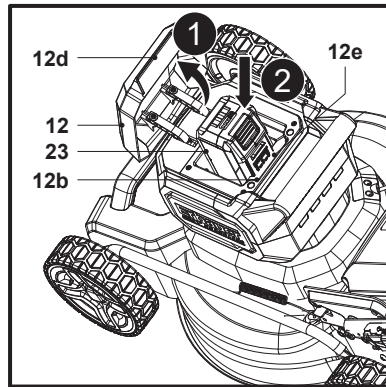

Fig. 7
1. Hold the lip (12d) and open the battery compartment cover (12) (Fig. 7, step 1).
2. Align the battery pack (23) with the sliding slots (12b) of the battery compartment (12e) and slide the battery pack (23) in to attach it (Fig. 7, step 2).